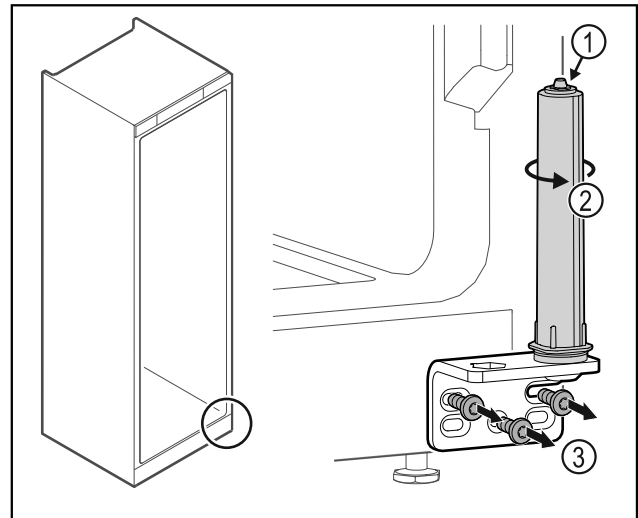

Fig. 53
- ▶ Do not disassemble the door closing system Fig. 53 (1).
- ▶ Turn the closing system Fig. 53 (2) until it clicks.
- ▶ Unscrew the hinge Fig. 53 (3).